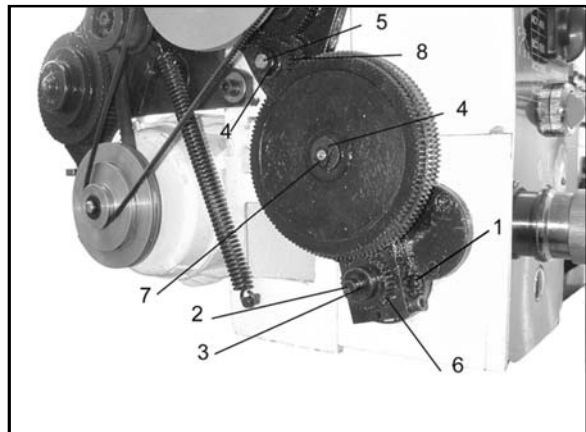

Figure 20
Example of Gear Set-up to Cut 10 T.P.I. (Figure 20)
1. Loosen screw (1, Figure 20).
2. Loosen bolt (2). Remove washers (3) and gear (6).
3. Loosen bolt (7) to allow movement in the center gear position.
4. Loosen nuts (5). Remove washer (4) and gear (8).